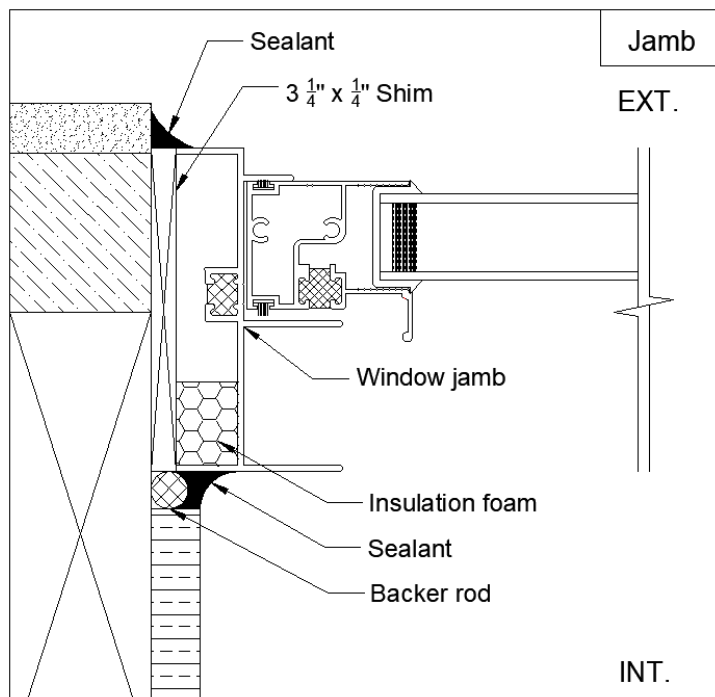

Figure 3: Top View of Jamb
2.2 Set the window on the shim and adjust the window to make equal clearances on both sides. Insert $3 \frac{1}{4}$ " x $\frac{1}{4}$ " shim into the clearance between window frame and opening jamb on both sides, the length of shim is same as the opening height, the thickness of shim is depended on the clearance between window frame and opening jamb ($\frac{1}{4}$ " thickness is typical, refer to figure 3). Notice: do not over insert the shims to distort the window frame.